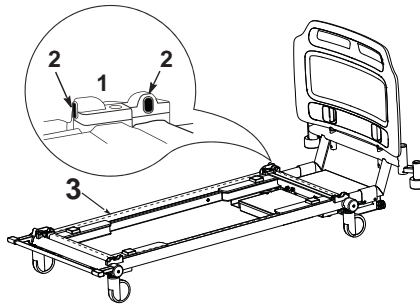

Figure 30: Anti-entrapment sensors and beam
Clean the lenses (See Figure 30, item 2) of the infrared sensors regularly using a soft dry cloth.